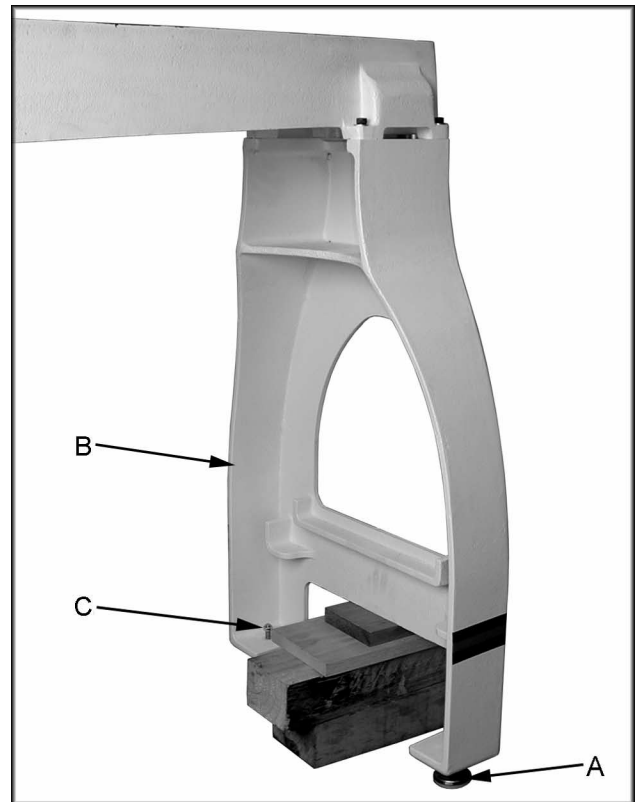

Fig. 2
- Lift the tailstock end of the lathe up far enough to slide a few pieces of scrap wood under the leg, see Figure 2.
- Thread adjustable feet (A, Fig. 2) into stand leg (B, Fig. 2). There is a flat spot on the shaft near the foot that will accommodate a wrench. Thread a hex nut (C, Fig. 2) onto shaft and leave loose for now.